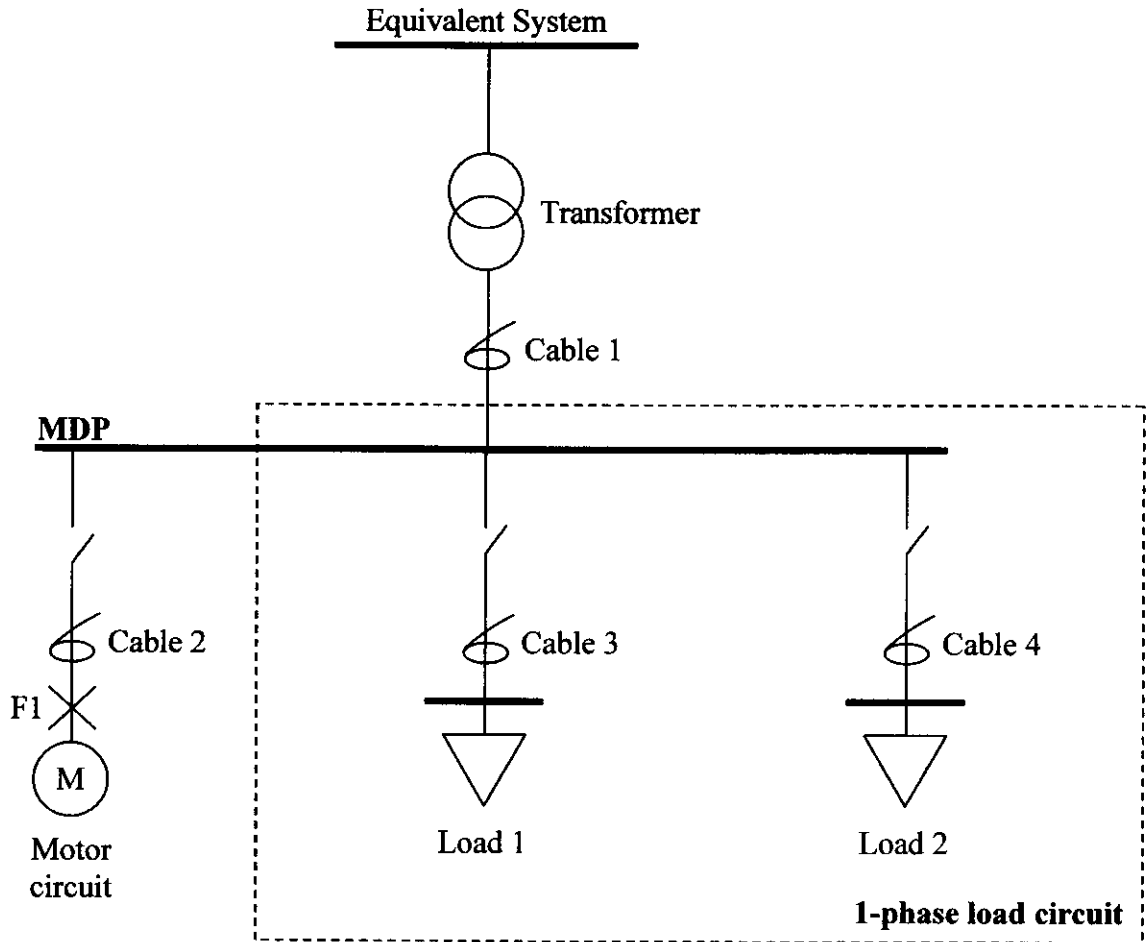

FIGURE Q2(b)
- (b) A simplified one-line-diagram of a commercial installation is depicted in Figure Q2(b), consisting of a 3-phase motor circuit and two 1-phase load circuits. The details for each component is given in Table Q2(b). Analyse the voltage level received at Load 1 and Load 2 terminals by considering the voltage drop effect. Assume balance 3-phase load at MDP. (13 marks)
- (c) Compare the symmetrical and asymmetrical short circuit currents for a 3-phase fault occurring at *F1* as shown in Figure Q2(b). The asymmetrical short circuit current is referring to the instantaneous peak and half-cycle rms short circuit currents. Ignore all voltage drop effect. (8 marks)